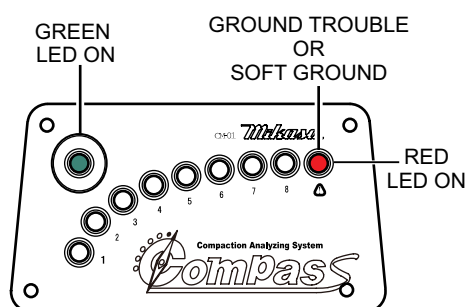

Figure 24. Ground Trouble or Soft Ground
1. For a case of unstable ground or soft ground (soil containing high clay content) for which the use of this machine is not suitable, only the green and red LEDs will be on (Figure 24), with no yellow LED's on.